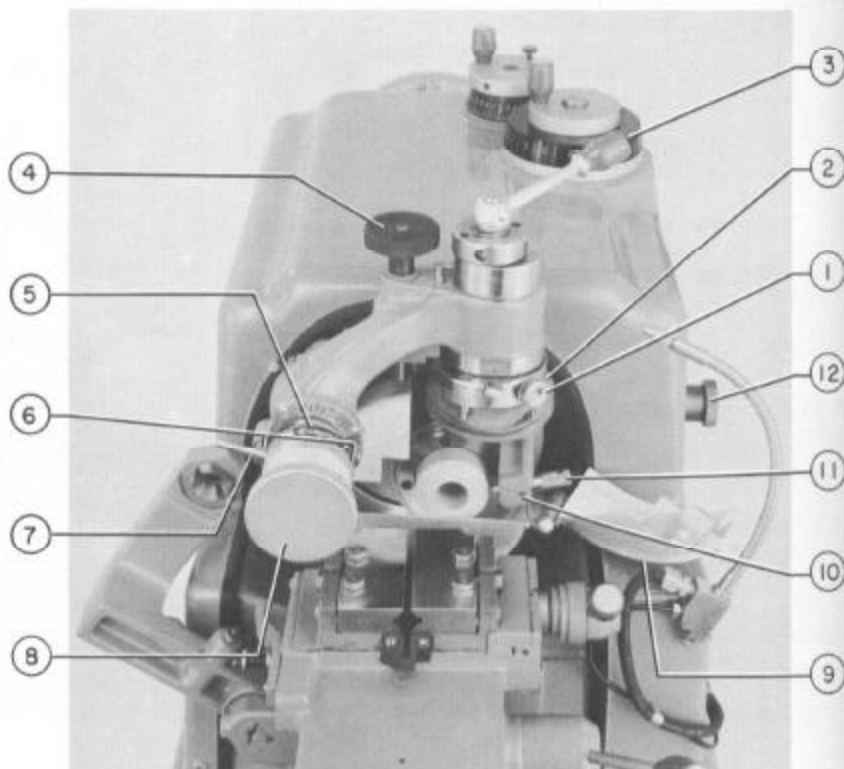
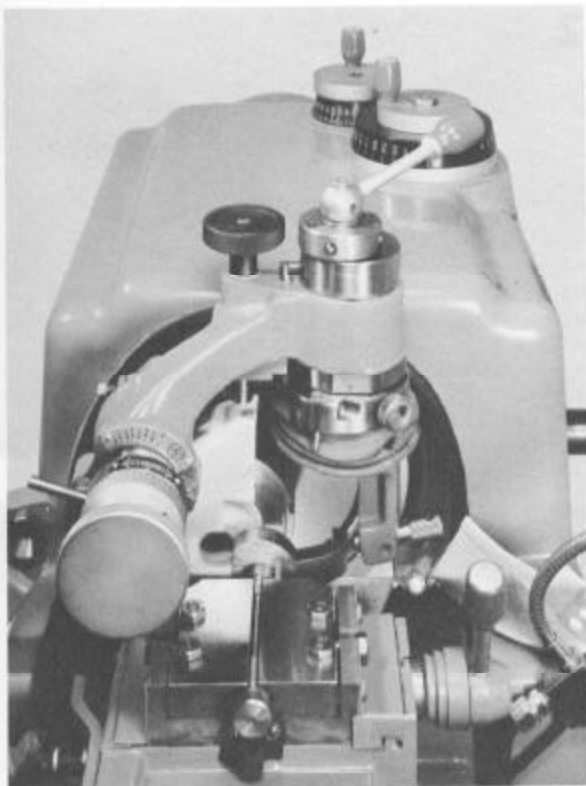

Figure 6
Figure 7a
The face angle of the grinding wheel controls the point angle of the drill. Therefore, the truing unit is adjustable so the face angle may be varied to produce point angles between 90 and 180 degrees. To adjust the truing unit for the desired point angle, loosen the knurled thumbscrew (1, Figure 6) on the angle adjustment plate (2). Rotate the plate until the scribe mark on the housing is in line with the scribe mark for the desired point angle. Retighten the thumbscrew.
The radius of the wheel must be varied for the specific diameter of the drill being ground. To adjust the truing unit to shape the correct radius, unclamp the radius adjustment sleeve (5, Figure 6) by loosening the two hex head screws (6) on either side of the drill diameter plate. (Use the wrench supplied with the machine.) Rotate the sleeve, using its adjustment pin (7), until the scribe mark is in line with the applicable drill diameter mark on the reference plate. Reclamp the sleeve by tightening the two hex head screws. The diameter plate is graduated in 1/16" increments. If no mark is given for the diameter of the drill being ground, set the unit for the next larger drill diameter mark.
The outside diameter of the grinding wheel is controlled by the position of the diamond nib (11, Figure 6) in the truing unit. **FOR ACCURATE WHEEL TRUING, THE DIAMOND MUST BE POSITIONED CORRECTLY.** The diamond must be repositioned every time the radius adjustment is changed or, the diamond has worn due to usage. In addition to correct positioning, the diamond should be rotated a small amount periodically. This causes uniform diamond wear by presenting a new surface to dress the wheel. To position the diamond, set the drill diameter dial at cone grind. Stop the machine so that the grinding wheel comes to rest to the left of the machine's centerline. Swing open the right side section of the grinding wheel guard (9, Figure 6). Swivel the truing unit to its operating position as shown in Figure 7a. Lock it in place with its locking knob (4, Figure 6). Clamp the diamond setting gage in the drill clamping jaws. **DO NOT TURN ON THE MACHINE WHILE THE DIAMOND SETTING GAGE IS CLAMPED IN THE JAWS.** Locate the gage so the diamond may touch the ground radius on the arm of the gage. Swivel the truing lever (3, Figure 6) until the diamond is in the position corresponding to the position at which it dresses the O.D. of the wheel (as in Figure 7a). Loosen the set screw (10) and move the nib (11) in until the diamond point just touches the
5. To dress the grinding wheel (Figure 8c), advance the diamond into the wheel with the micrometer control. Swivel the dressing lever (3, Figure 6) so the diamond travels across the face of the grinding wheel, along its radius and across the outside diameter. The radius and outside diameter of the grinding wheel are its most critical dimensions and they should be dressed very carefully.